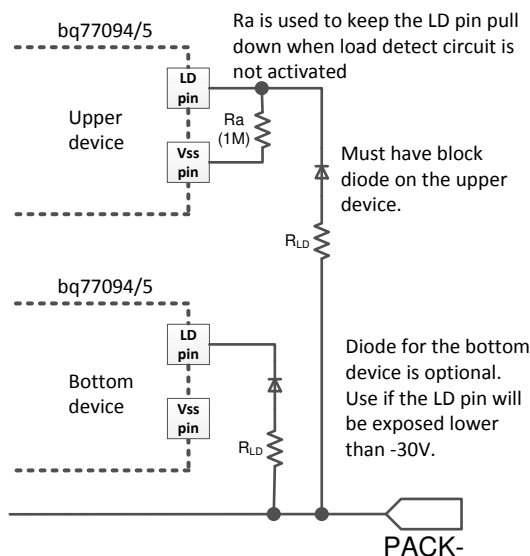

Figure 9-7. Simplified Circuit: LD Connection on Upper Device When Using for UV Fault Recovery
- If load removal is not used for UV recovery, connect the upper device LD pin to its AVSS pin, as shown in Figure 8-9 and Figure 8-10. Otherwise, refer to Figure 9-7 for proper LD connection.
To ensure load removal is detected properly during a UV fault, TI recommends to use 3.3 MΩ for R_{GS_CHG} (instead of a typical of 1 MΩ when load removal is NOT required for UV recovery). R_{CHG} can stay in 1 MΩ as recommended when using CHG FET protection components. The CHG FET rise time impact is minimized as described in the Protecting CHG FET section. On a stacked configuration, connect the LD pin, as shown in Figure 9-7 if load removal is used for a UV fault recovery. If load detection is not required for a UV fault recovery, a larger value of R_{GS_CHG} can be used (that is, 10 MΩ) and the LD pin on the upper devices can be left floating.